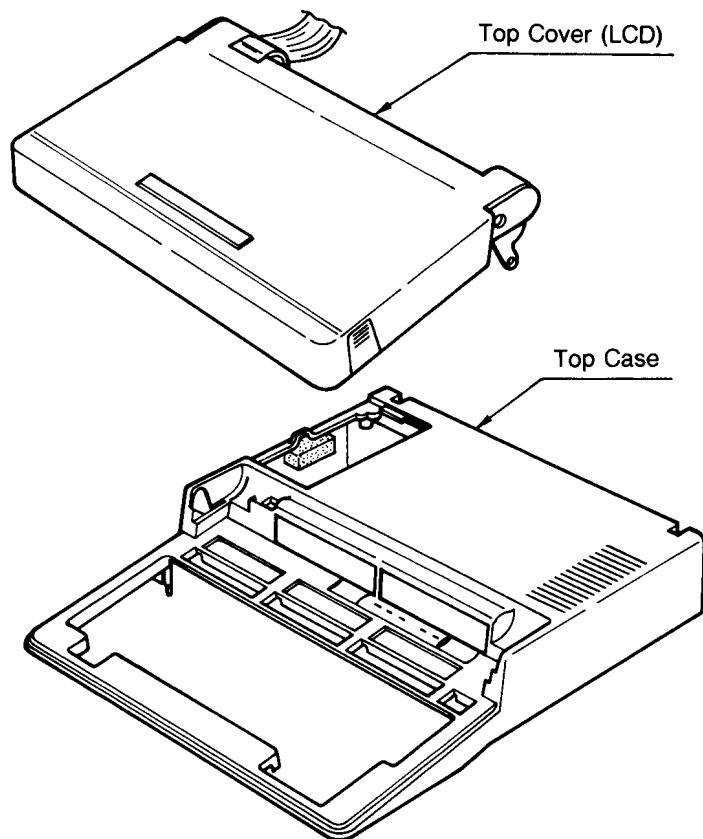

Figure 2-7. Top Cover Removal
(2) Remove the Top Cover (LCD) from the Top Case. (Figure 2-7)